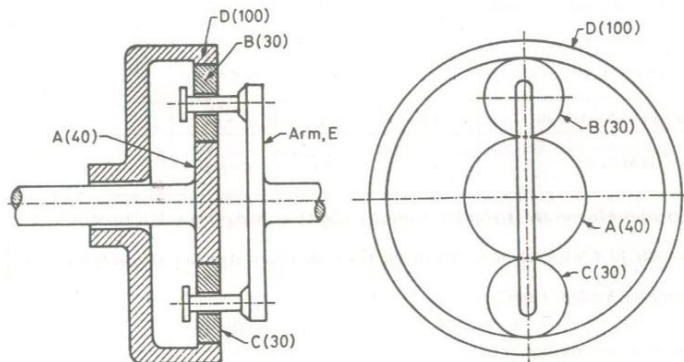

Figure: 1.
- 10 Figure .1. Shows an epicyclic gear train. Two planet gears B and C having 30 teeth each are attached to the arm E and Gear A is having 40 teeth instead of 50, then find the number of revolutions made by the arm when: [7+7 M]